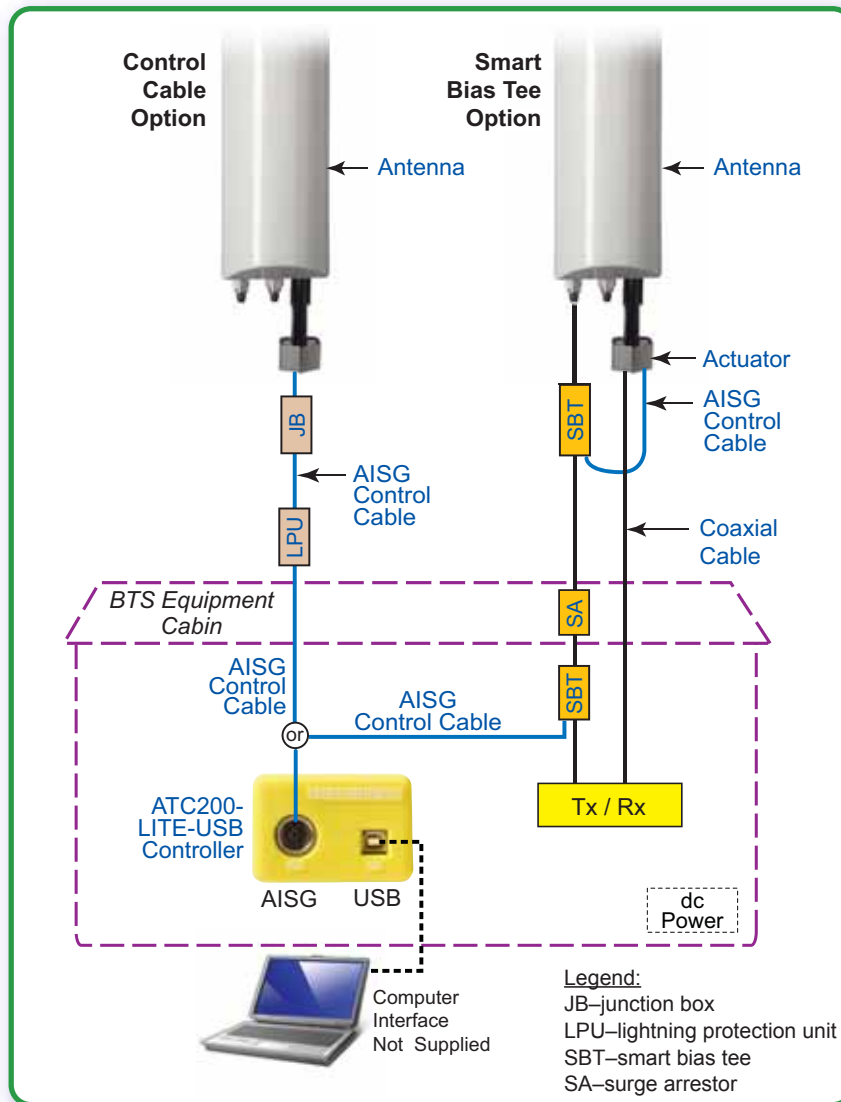

Figure 7. Installed ATC200-LITE-USB Controller System.
- D. After installing the USB driver, connect the desired length RET control cable between the controller's AISG connector and the first component in the RET system (or actuator that is to be tested before the antenna is mounted on the tower). See Figure 7.